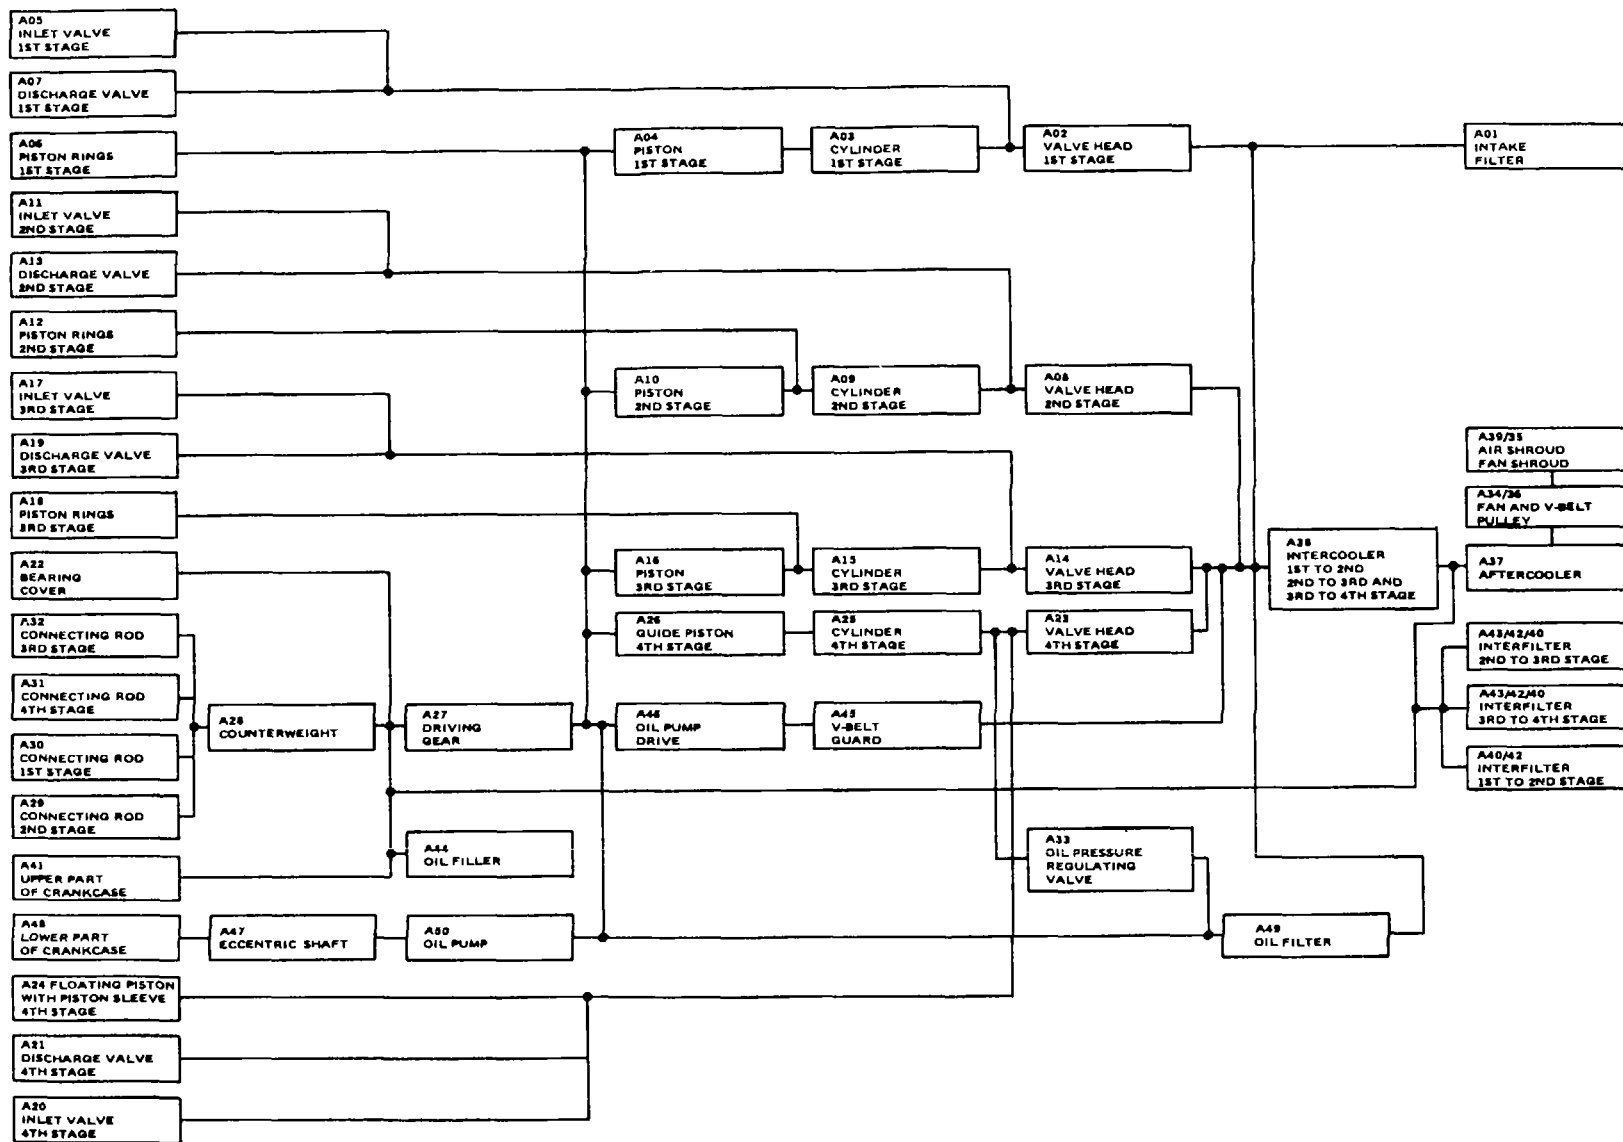

Figure 6-54. Work Sequence Plan (Compressor Block Assembly)
The compressor block assembly work sequence plan (Figure 6-54) is provided to serve as a guide in assembling the compressor block. With this plan the work sequence for each step of assembly can be clearly seen. The individual assembly groups are illustrated in the work sequence plan by fields.
- (1) See work sequence plan.
- (2) Locate all assembly groups to be assembled or replaced in the work sequence plan.
- (3) Trace all connecting lines leading from each assembly group to be assembled or replaced to the starting point. All affected assembly groups must be assembled before the assembly group selected can be assembled.
- (4) Assemble groups closer to the starting point before groups further displaced from the starting point, following the connecting lines to the right.
- (5) If several connecting lines from the left converge on one assembly group field, all assembly groups on these lines must be previously assembled.
- b. Example (see Figure 6-54). The assembly group A23, valve head 4th stage, is to be assembled. The following assembly groups must be assembled first: A22 bearing cover, A32 connecting rod 3rd stage, A31 connecting rod 4th stage, A30 connecting rod 1st stage, A29 connecting rod 2nd stage, A28 counterweight, A41 upper part of crankcase, A27 driving gear, A26 guide piston 4th stage, A25 cylinder 4th stage, A24 floating piston with piston sleeve 4th stage, A21 discharge valve 4th stage, A20 inlet valve 4th stage.
- a. Accomplish necessary prerequisites (see Figure 6-54).
- b. Press ball bearing (28) onto eccentric shaft (30).
- c. Press eccentric shaft (30) with ball bearing (28) into lower part of crankcase.
- b. Place gasket (18) on oil pump (13).
- c. Place three washers (15) on three internal hex-head screws (14) and screw through oil pump (13) into lower part of crankcase.
- d. Tighten internal hex-head screws (14) to 18 lb-ft.
- e. Insert 0.3 mm or .012 in. feeler gage between eccenter and pump plunger and turn eccenter shaft by hand. If eccenter does not turn place an additional gasket between oil pump (13) and lower part of crankcase. Pump plunger must lie against eccenter with no free space between.
- b. Place counterweight (1) on driving gear (7).
- c. Insert tight-fit screw (2) through counterweight (1), place lock washer (4) on screw and screw on hex nut (3) tightening to 18 lb-ft.
- b. Place gasket (4) on bearing cover (30).
- b. Insert key (29) into key slot of crankshaft and slide V-belt pulley (4) onto crankshaft.
- c. Place two lock washers (6) on two internal hex-head screws (5) and screw on upper V-belt pulley (4). Tighten to 18 lb-ft.
- d. Slide rear V-belt pulley part (22) onto eccentric shaft (30), place two lock washers (20) on two internal hex-head screws (19), and screw on rear V-belt pulley part. Tighten screws (19) to 7.3 lb-ft.
- e. Place V-belt (7) over upper V-belt pulley (4).
- f. Place three lock washers (20) on three internal hex-head screws (18) and stick screws through the front V-belt pulley part (17).
- g. Place spacers (21), if necessary, on V-belt pulley part (22), screw front V-belt pulley part (17) to rear V-belt pulley part (22) with three screws (18). Tighten to 8 lb-ft.
- b. Place four washers (3) on four internal hex-head screws (2), hold V-belt guard (1) to upper and lower parts of crankcase and attach with the internal hex-head screws. Tighten to 3 lb-ft.
- b. Place guide piston (22) on connecting rod.
- c. Place wrist pin (24) in wrist pin bore of piston (22) and through the connecting rod eye of the connecting rod.
- d. Secure wrist pin (24) in the bore of the piston by two snap rings (23 and 25).
- b. Place 3rd stage guide piston (32) on connecting rod.
- c. Place wrist pin (34) in wrist pin bore of piston (32) and through eye of connecting rod.
- d. Secure wrist pin (34) by two snap rings (33).